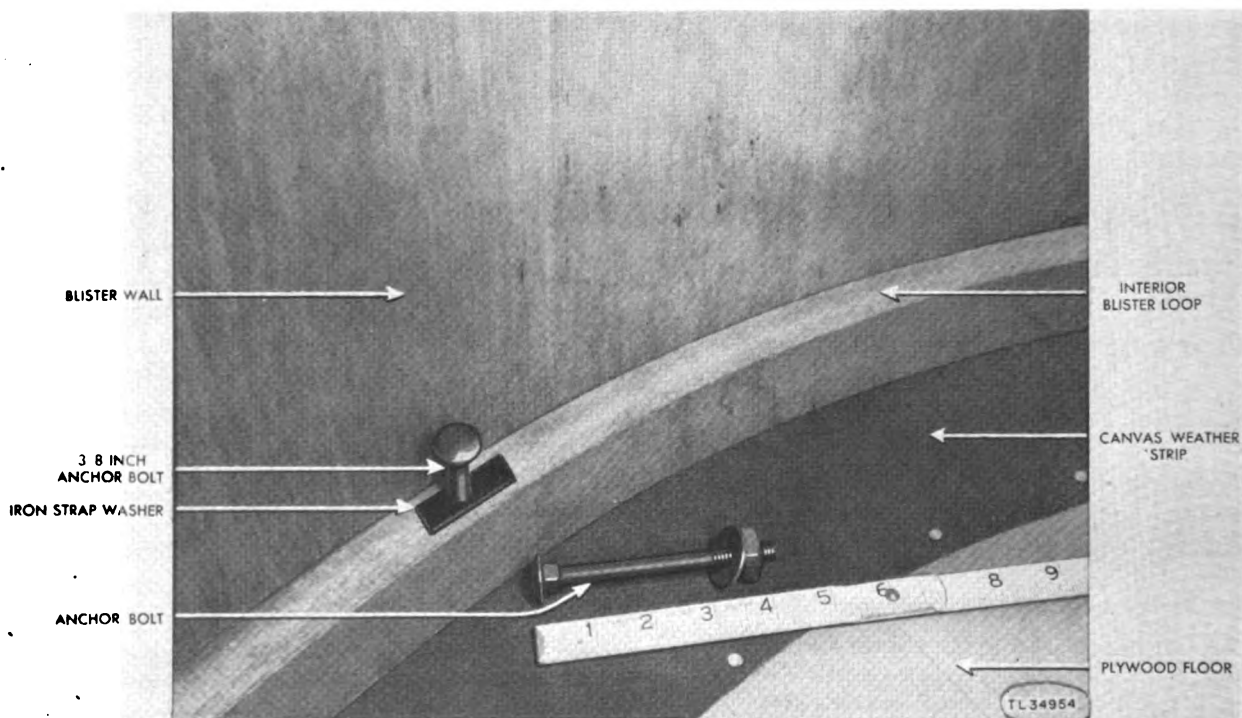

Figure 15. Fastening blister to platform.
(2) Set the blister in position with the door facing landward.
(3) With a long-shank extension bit, drill a minimum of six $\frac{3}{8}$ -inch holes through the mounting ring fastened along the inner wall at the bottom of the blister (fig. 15).
(4) With the use of wedges, raise the blister about one inch above the antenna platform and spread a heavy layer of caulking compound over the surface of the canvas on which the blister will rest.
(5) Remove the wedges and force the house in the caulking compound down to the canvas on the plywood floor.
(6) Fasten the blister to the platform (fig. 15) by using bolts, washers, and nuts.
(7) Smooth the remaining caulking compound evenly inside and outside the blister wall.
(8) Check for operation and fitting of the weathertight door which gives access to the blister. Whenever the door is closed, it should be protected with the canvas door cover, properly fastened.